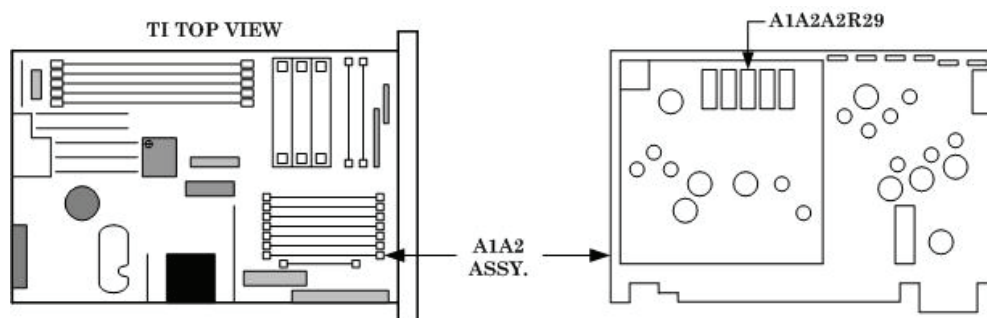
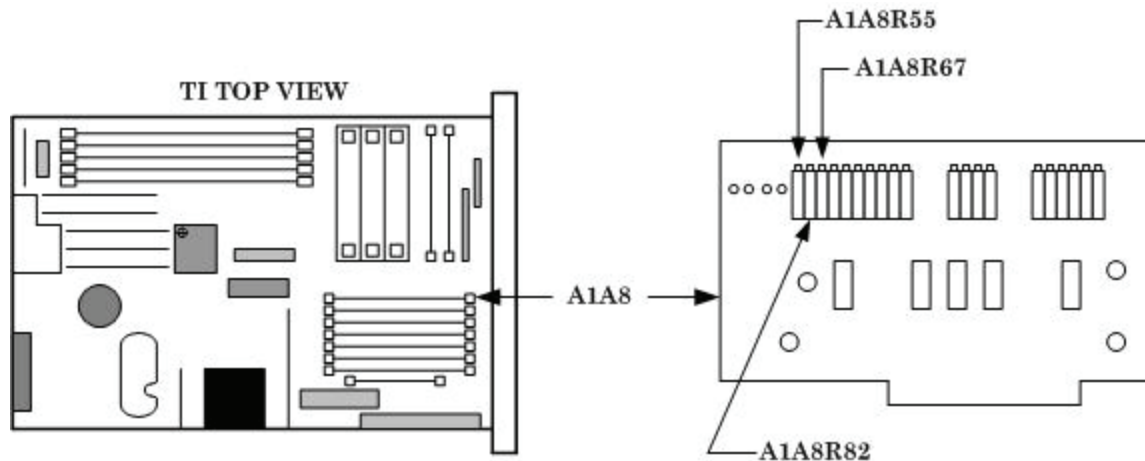

Figure 5. A1A2 board.
Figure 6. A1A8 board.
- (6) Press TI **RCL 1**.
- (7) Adjust A1A2A2R29 (fig. 5) for a measuring receiver indication of **-3.0 dBm (R)**.
(8) Using **TUNE KNOB**, tune the test instrument from 2 to 6.6 GHz. Record minimum and maximum measuring receiver indications and frequencies where they occur.
(9) Adjust A1A8R55 (fig. 6) to reduce the difference between minimum/maximum power indications (R).
(10) Using **TUNE KNOB**, tune the test instrument to 2 GHz.
(11) Readjust A1A2A2R29 (fig. 5) for a measuring receiver indication of 3.0 dBm.
(12) Tune the test instrument from 2 to 6.6 GHz. Verify that the output level stays within  $\pm 1$  dB of -3 dBm.
(13) Repeat (8) through (12) above until level stays within 1 dB of -3 dBm or until no further improvement can be made.
(14) Press **TI RCL 2**.
(15) Using **TUNE KNOB**, tune the test instrument from 6.600002 to 12.99902 GHz. Record minimum and maximum measuring receiver indications and frequencies where they occur.
(16) Adjust A1A8R82 (fig 6) to minimize difference between minimum and maximum power indications (R).
(17) Press **TI SWEEP MODE OFF, FREQ INCR, 2, 0, 0**, and **MHz** keys.
(18) Verify the measuring receiver indicates -3 dBm  $\pm 0.2$  dBm. Readjust A1A2A2R29 (fig. 5) as necessary for best compromise.
(19) Using **TUNE KNOB**, tune the test instrument from 2 to 12.2 GHz. Verify that the difference between the minimum and maximum power indications are equal to or less than 3 dB.
(20) Press TI **RCL** and **3** keys.
(21) Using **TUNE KNOB**, tune the test instrument from 12.300003 to 17.59999901 GHz. Record minimum and maximum measuring receiver indications and frequencies where they occur.
(22) Adjust A1A8R67 (fig. 6) to minimize difference between minimum and maximum power indications (R).
(23) Press TI **SWEEP MODE OFF**, **FREQUENCY**, **2**, and **GHz** keys.
(24) Adjust A1A2A2R29 (fig. 5) for a measuring receiver indication of -3.0 dBm.